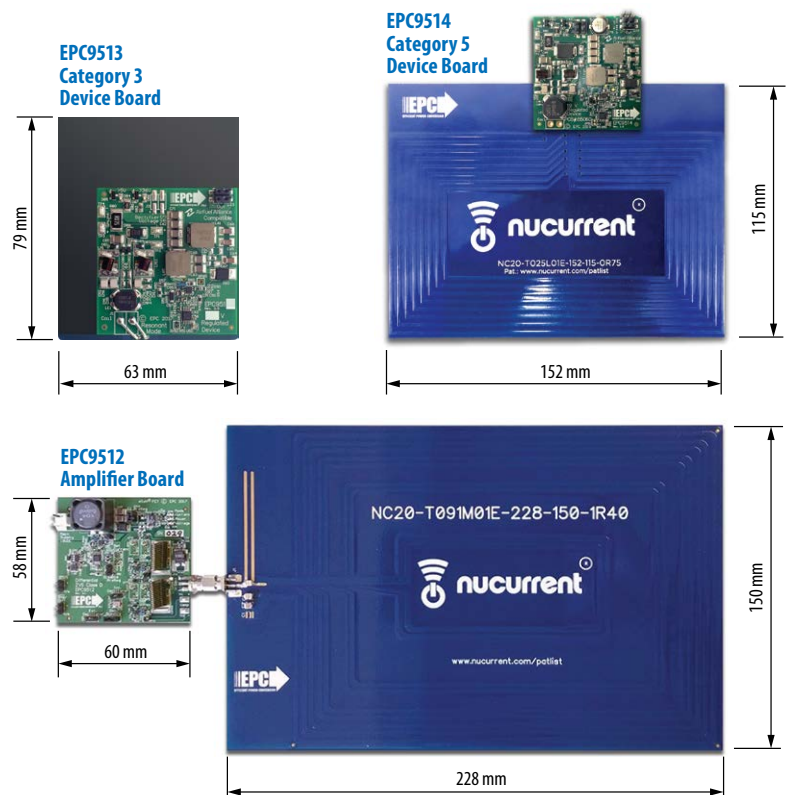
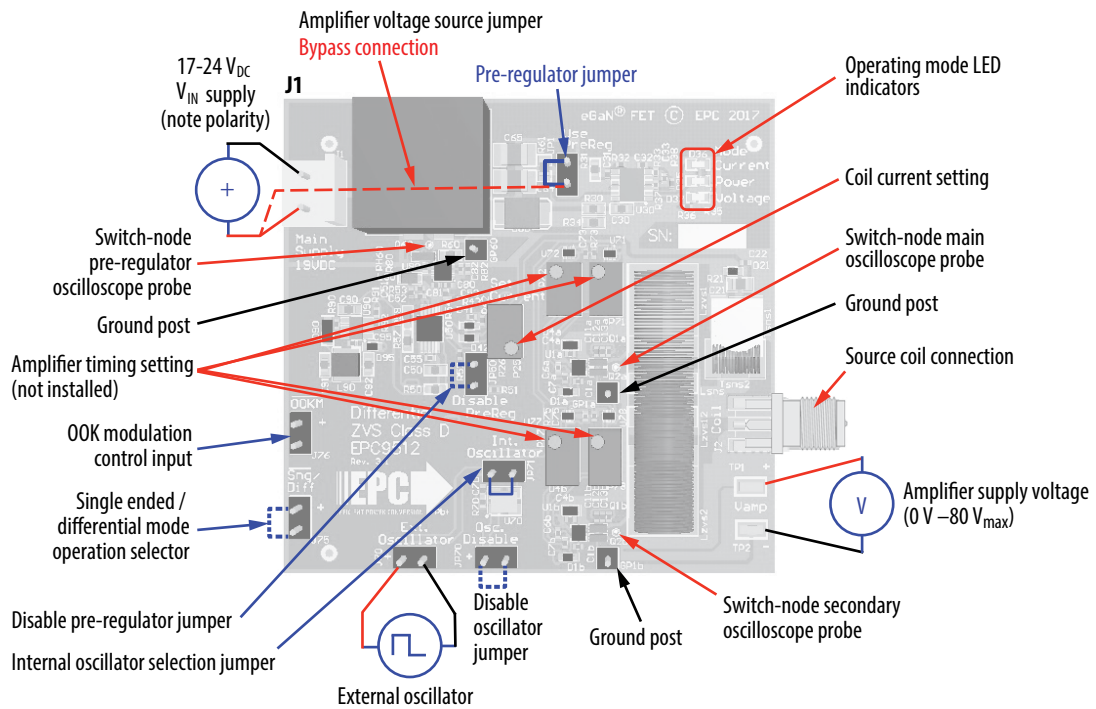

Figure 1: EPC9129 demonstration system.
Figure 8: Proper connection and measurement setup for the amplifier board.
The EPC9129 wireless power system is comprised of the four boards (shown in figure 1), namely:
The assembly of the EPC9129 Wireless Demonstration kit is simple and shown in figure 1. The source coil and amplifier have been equipped with SMA connectors. The source coil is simply connected to the amplifier. The device board do not need to be mechanically attached to the source coil.
The EPC9129 demonstration system is easy to set up and evaluate the performance of the eGaN FET in a wireless power transfer application. Refer to figure 1 to assemble the system and figures 8, 9, and 10 for proper connection and measurement setup before following the testing procedures.
- With power off, connect the main input power supply bus to J1 as shown in figure 8. Note the polarity of the supply connector.
2. With power **off**, connect the **main** input power supply bus $+V_{IN}$ to the bottom pin of JP1 and the ground to the ground connection J1 as shown in figure 8.